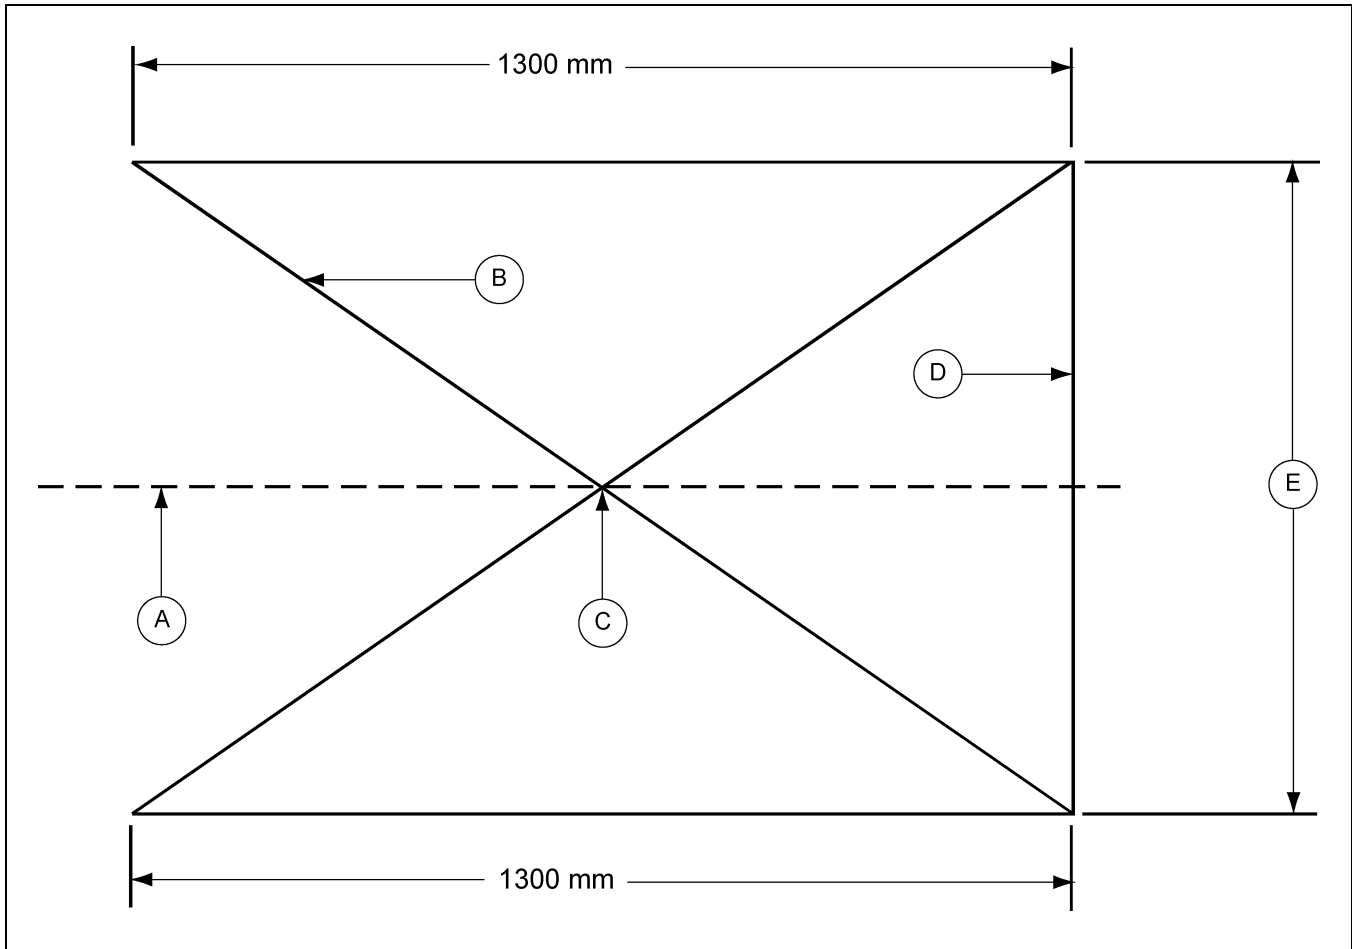

Figure 6C
- To check for the accuracy of the cut made, measure lengthwise 1300 mm from each edge of the belt. Using a straight edge, draw a line diagonally across the belt. This should be done from the 1300 mm point to the end corner on the opposite side of the belt. Do the same procedure in reverse to form an "X". The intersection point of the two (2) lines of the "X" should be in line with the centerline of the belt. (See Figure 6C.)